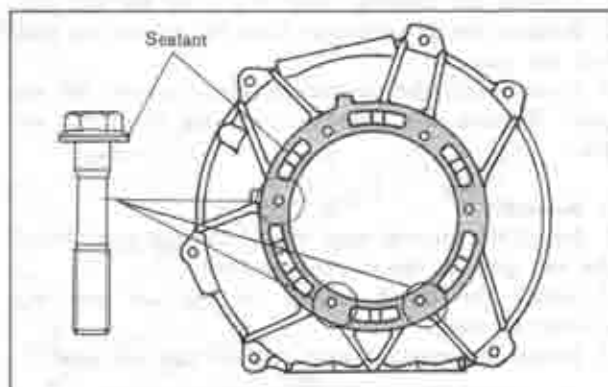

Fig. 7B-52 Applying sealant
16. Apply sealant (0118 77 723A) on the converter housing and three attaching bolt flanges, as shown in Fig. 7B-52.